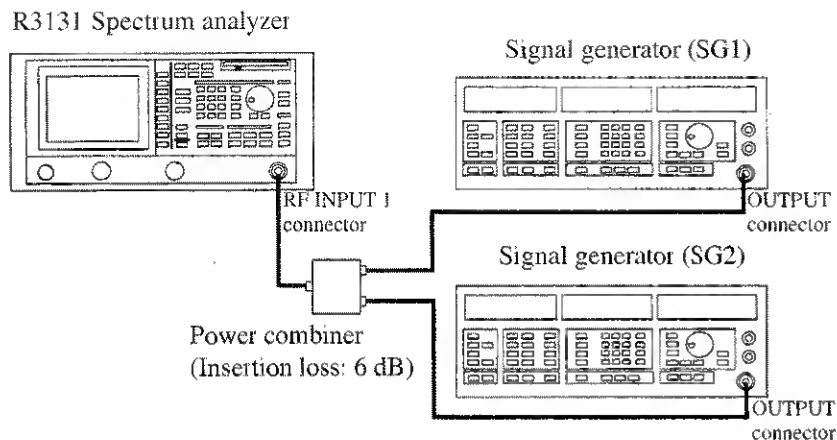

Figure 2-46 Setup for Measuring Intermodulation
1. Connect the signal generators as shown in Figure 2-46.